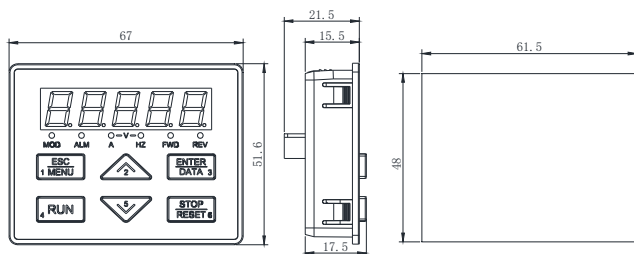

Fig.2-4 S-LED15 appearance and opening size of keypad
1. S-LED15、S-LED15-D long-distance keypad outer lead, do not support keypad holder installed, only keypad installed support, mounting size refer to Fig.2-4.